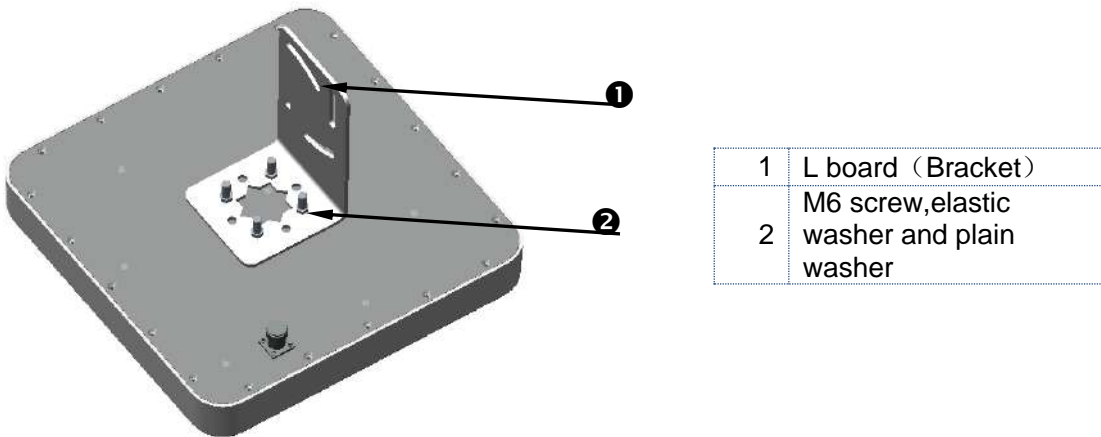

Figure 5 The structure for the Step 1 in the second case
Step 1: Use M6 screw, elastic washer and plain washer, to fix the L board on the antenna, as shown in Figure 5.